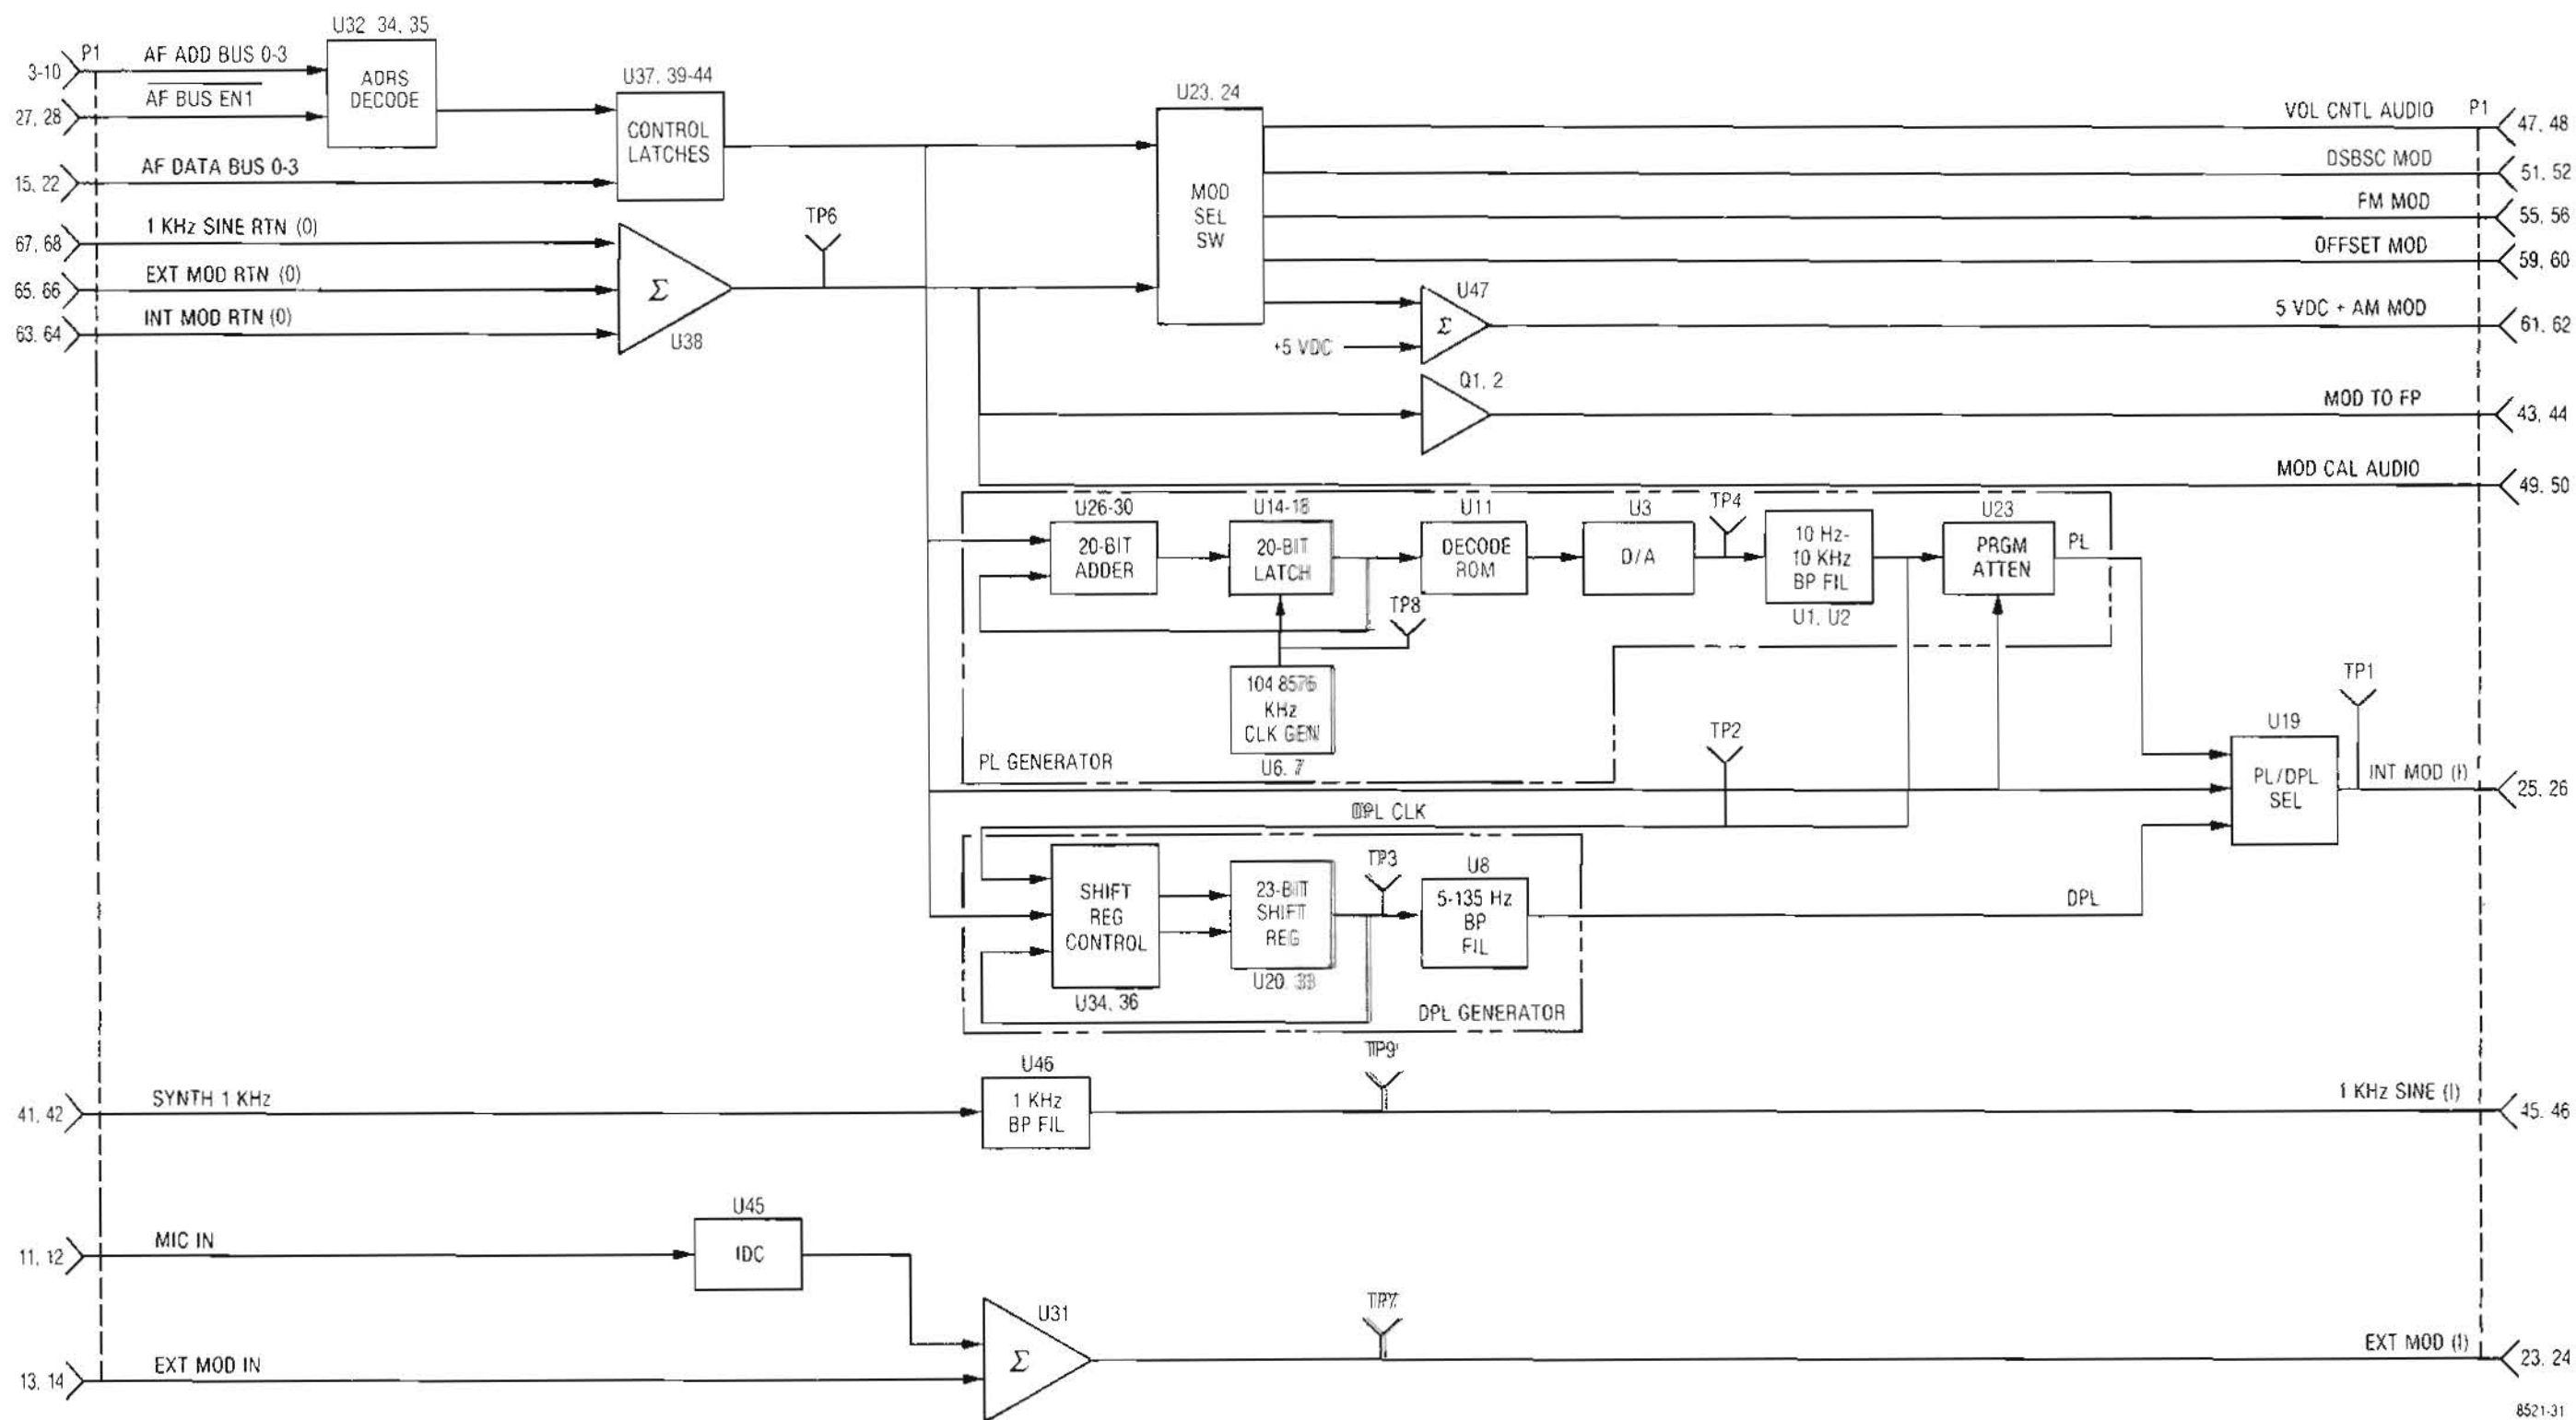
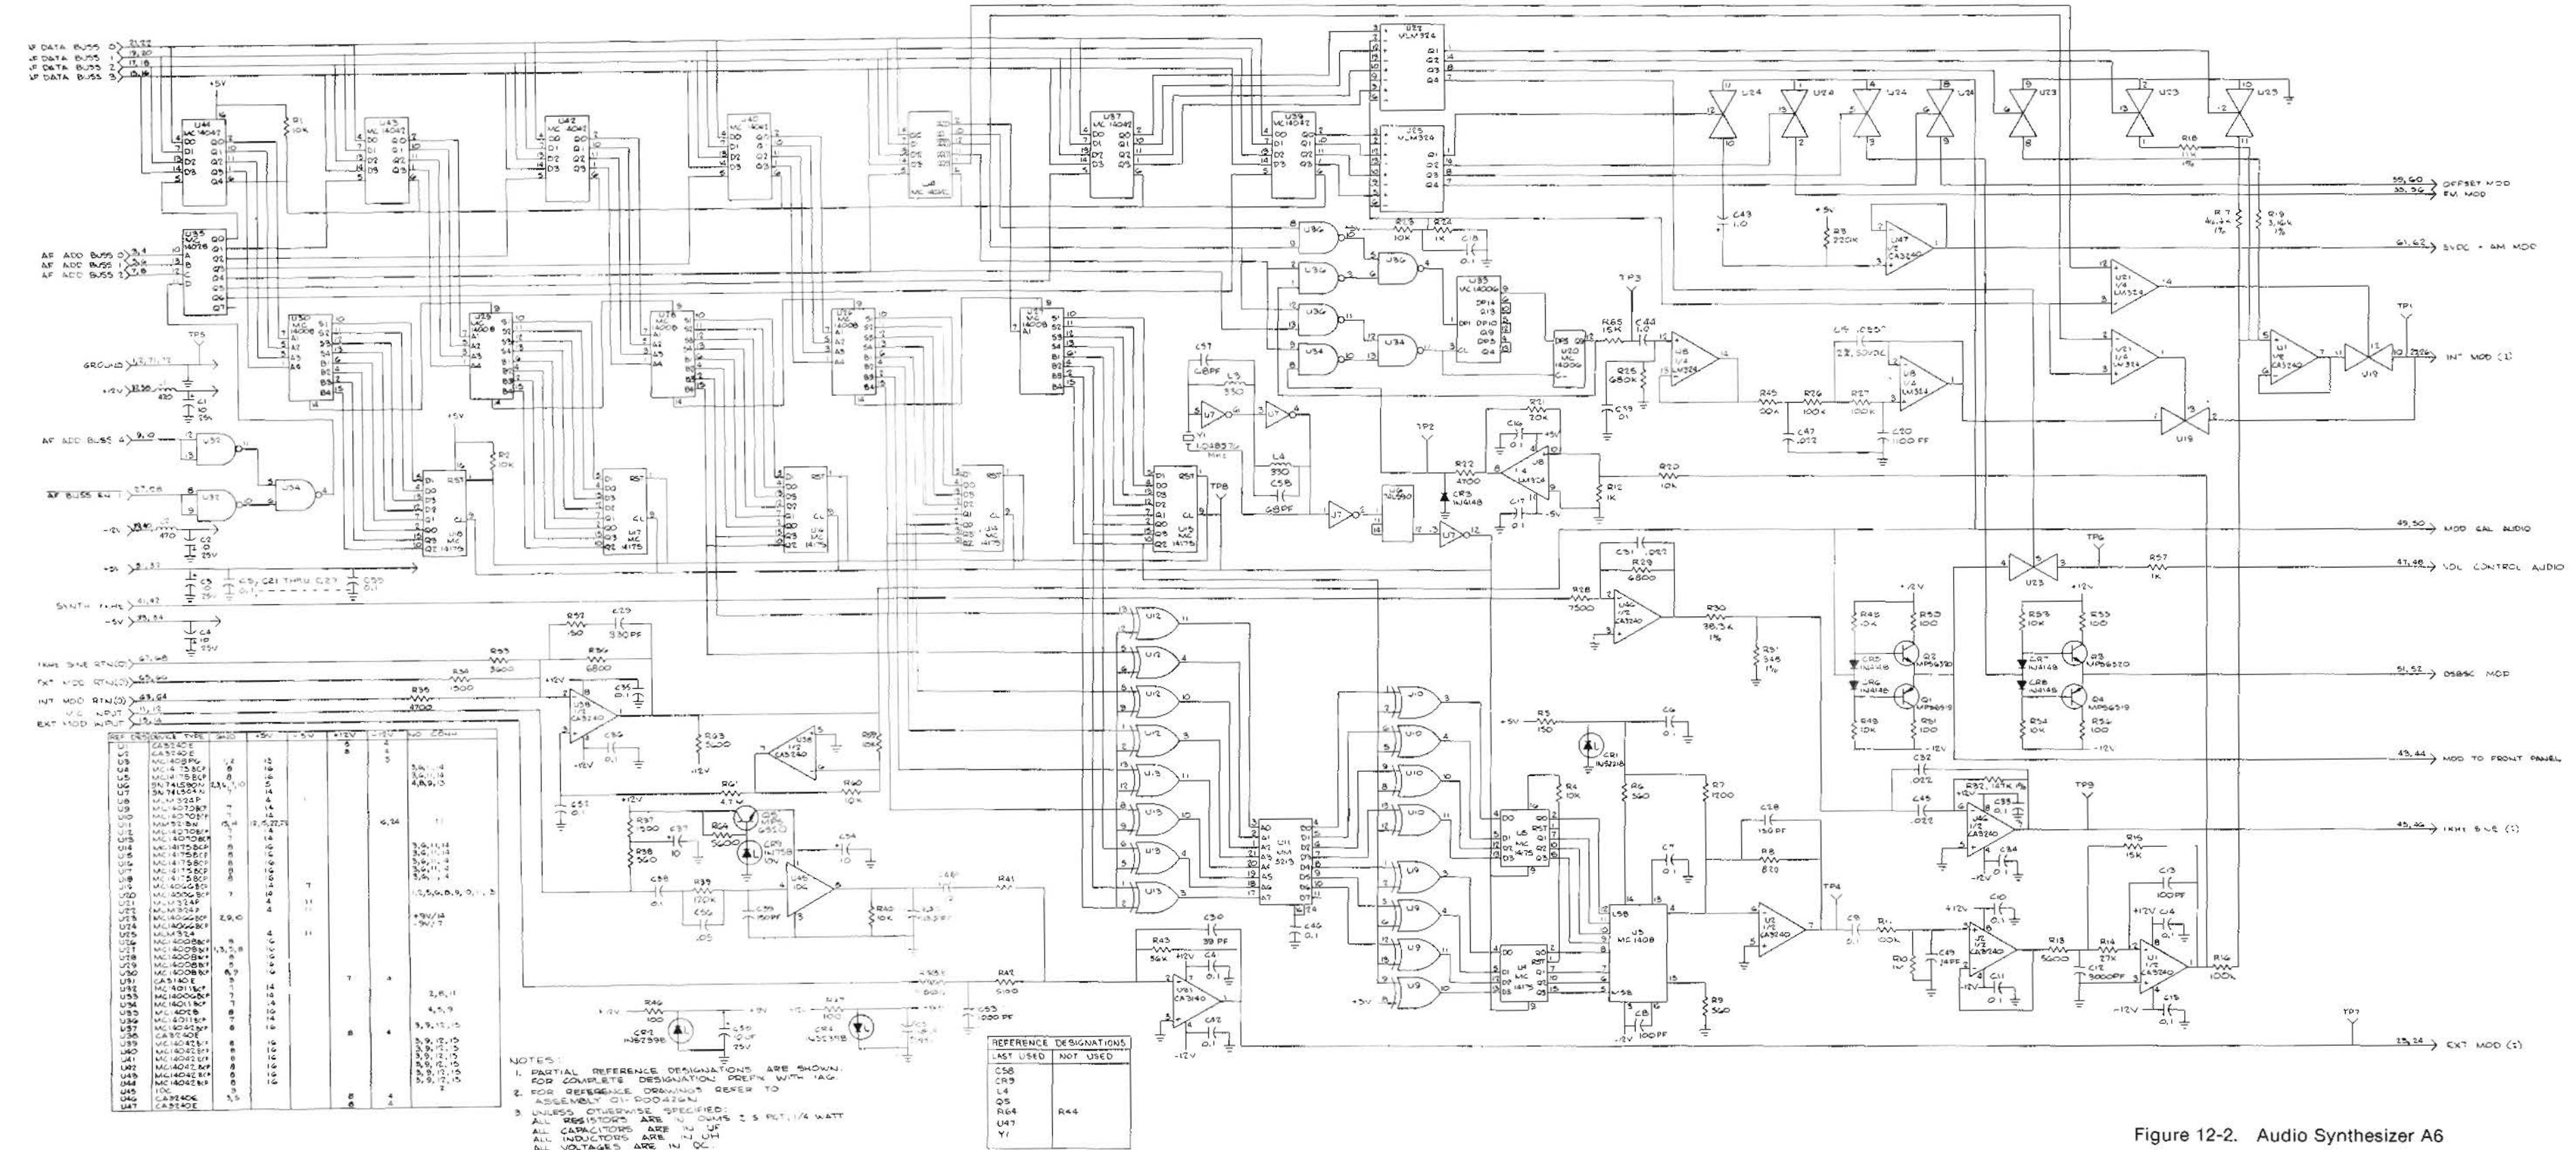

Figure 12-1. Audio Synthesizer A6 Block Diagram
Figure 12-2. Audio Synthesizer A6
**12-1. General.** Generation, processing, and control of modulation audio is the function of the Audio Synthesizer module. Three modulation signals, private line, digital private line, and a fixed 1 kHz, are generated on the board. Processing for external microphone and BNC jack audio inputs as well as summation of all modulation sources to form a composite source is provided. Switching of the composite source to the appropriate modulator completes the function of the Audio Synthesizer. A block diagram of the Audio Synthesizer is shown in figure 12-1 with its schematic in figure 12-2.